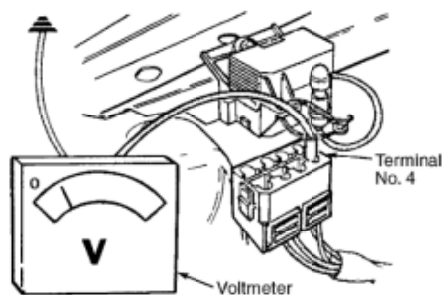

Fig. 5: Checking Voltage Between Terminal No. 4 & Ground
1) Turn ignition on. Ensure auxiliary cable between diagnostic hookup and control unit is okay. Check control unit. See CONTROL UNIT CHECK. Disconnect diagnostic hookup connector. Using a voltmeter, ensure battery voltage is present between terminal No. 4 and ground. See Fig. 5.